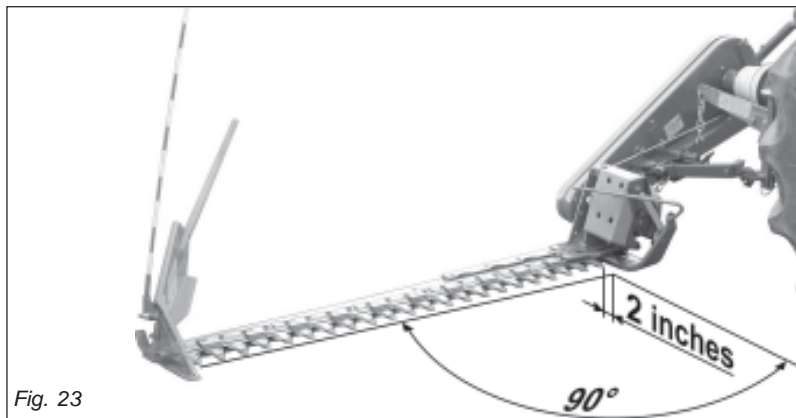

Fig. 23
- Fit the sickle bar by adjusting the tractor tie-rods so that, when the sickle bar attachment is fitted to the three points on the tractor, the external tip of the cutting arm is approximately 2 inches forward with respect to the arm base (Fig. 23).